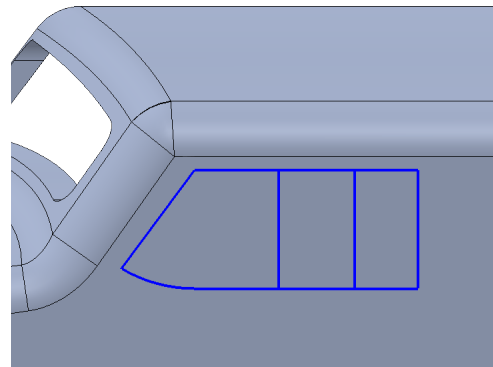

Fig. 55
Step 5. Sketch 2 vertical lines between, **Fig. 55**.